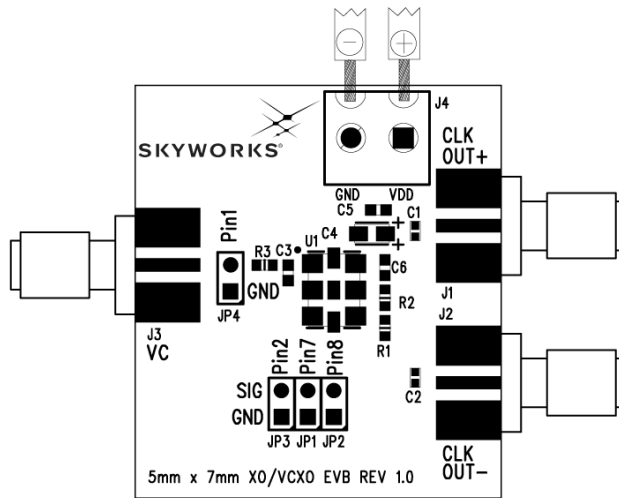

Figure 2. Assembly Drawing
- Updated Figure 2, "Assembly Drawing," on page 5.